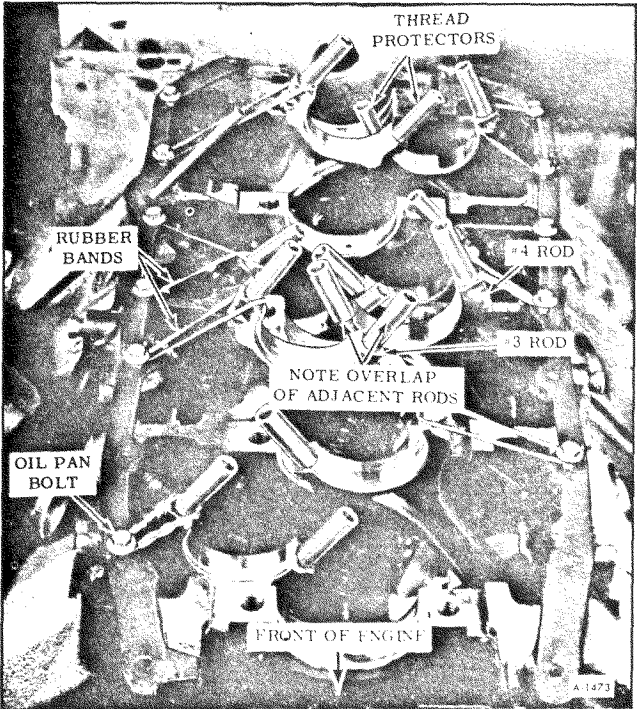

Figure 62—Crankshaft Removal
- 1. With engine on stand and oil pan, oil pump and front cover removed, rotate crankshaft to the position where the connecting rod nuts are most accessible. Figure 62 shows No. 3 and No. 4 rods in the fully extended position.
1. Install sufficient oil pan bolts in pan rails to align rods with rubber bands as shown in Figure 62.